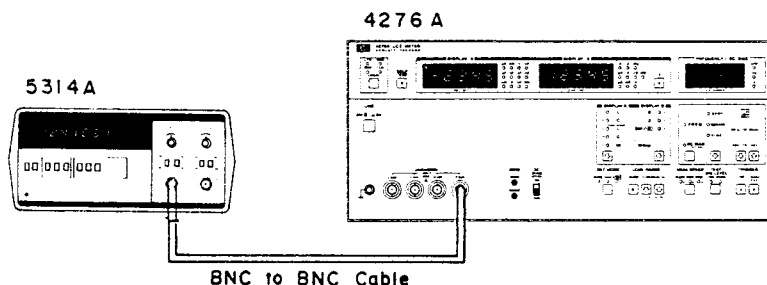

Figure 4-1. Test Frequency Accuracy Test Setup.
1. Connect the BNC-to-BNC cable to the 4276A UNKNOWN  $H_{CUR}$  terminal and to the 5314A's input as shown in Figure 4-1.